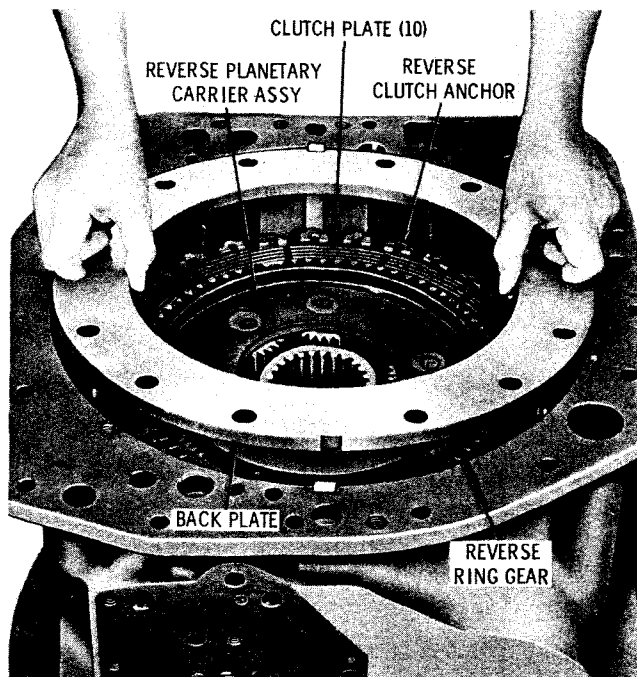

Fig. 5-30. Removing forward-and-reverse clutch back plate (5631 models)
(8) Remove the forward-and-reverse clutch back plate (fig. 5-30). Remove the reverse planetary carrier assembly. Refer to paragraph 6-17 for carrier rebuild procedures.
(9) Remove the first two clutch plates (fig. 5-30). Remove the reverse ring gear. Remove two of the eight remaining clutch plates.
(10) Remove the reverse clutch anchor (fig. 5-30). Remove the internal snap ring from the anchor. Remove the six remaining clutch plates.